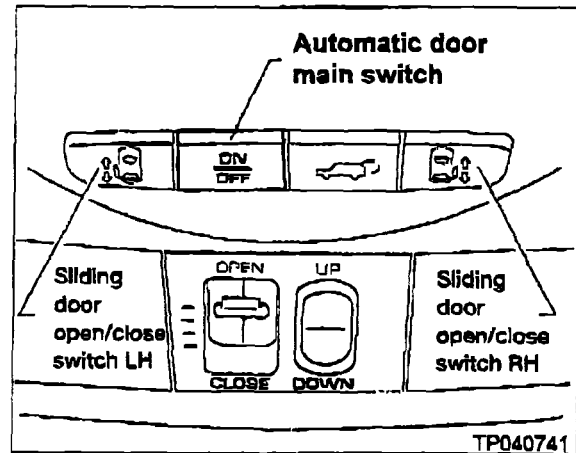

Figure 23
- You should hear three (3) sliding door warning chimes.
25. Turn the Automatic Door Main Switch ON (see Figure 23).